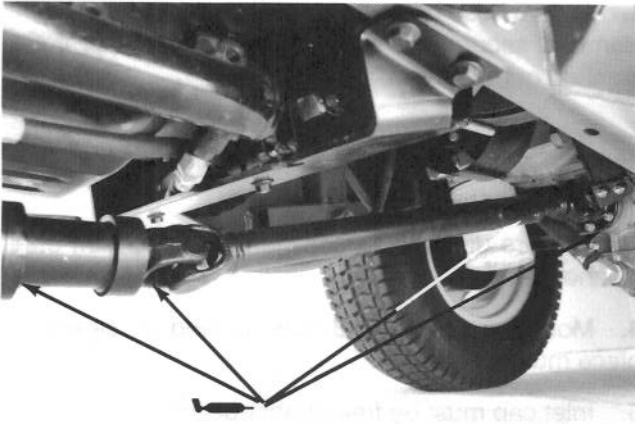
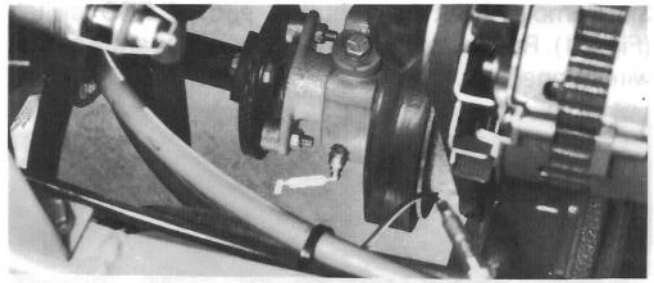

Figure 38
Figure 39
1. The traction unit bearings and bushings that must be lubricated are: PTO shaft and yokes (Fig. 33); lift arm pivots (Fig. 33); right and left push arm ball joints (Fig. 33); push arm pivot bushings (Fig. 34); PTO pivot housing blocks (Fig. 35); brake pivot bushings (Fig. 36); axle tie rod (2) (Fig. 37); axle pivot pin (Fig. 37); cylinder rod ends (2) (Fig. 37) drive shaft (3) (Fig. 38); clutch housing (Fig. 38) and engine output shaft bearing (Fig. 39). Also apply grease to both brake cables at the drive wheel and brake pedal ends.